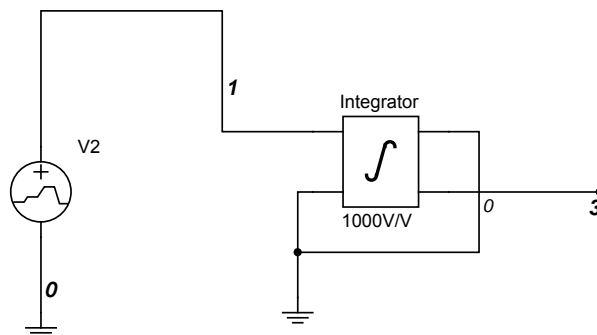

Figure 7-10. Inverting Integrator controller
1. Build the circuit shown in Figure 7-10 using Multisim.